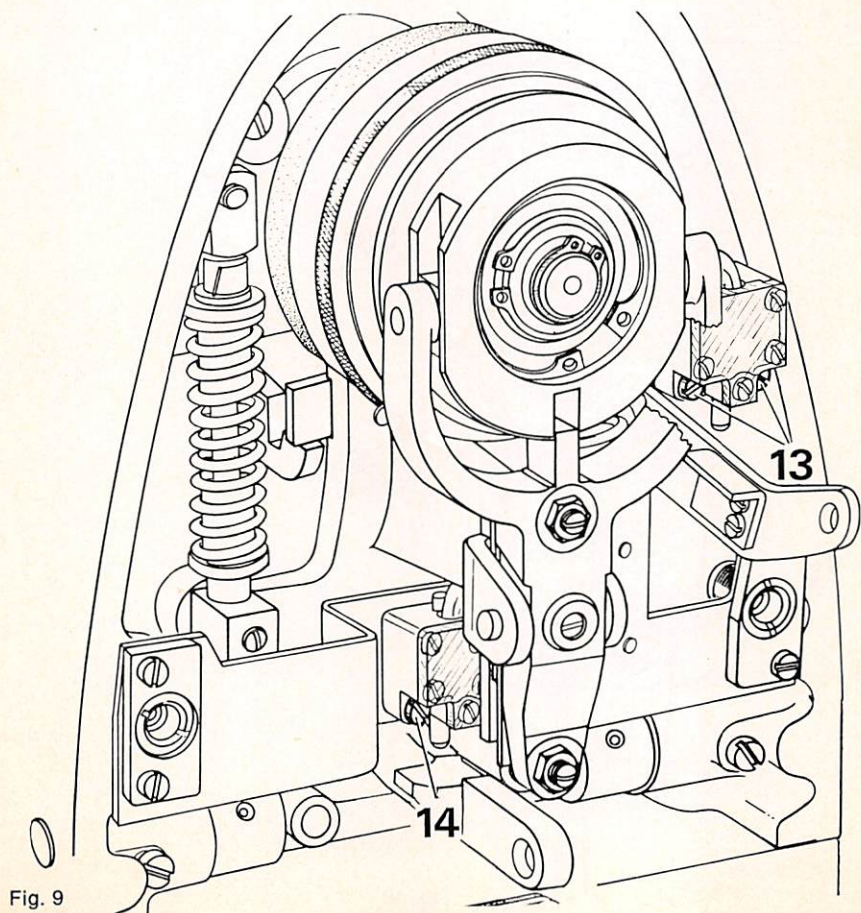

Fig. 9
9. **Adjusting the micro switches (Fig. 9)**